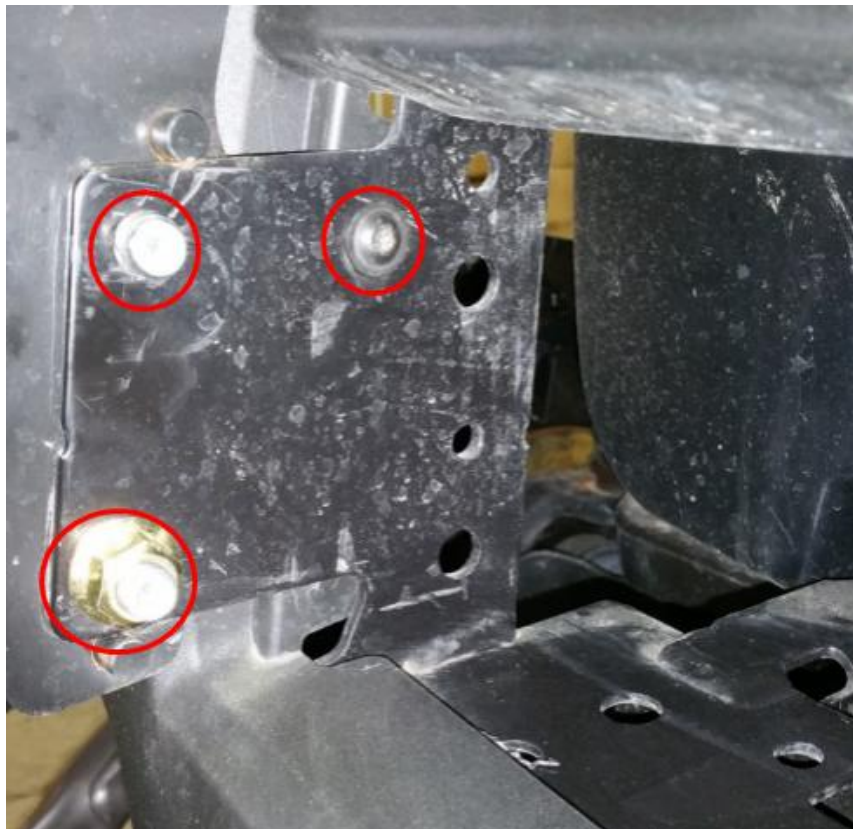

Figure 1
- 3) Using the hardware included in the winch kit, install the four (4) M8x25mm hex head bolts up through the bottom of the MA11990 Mount Plate (part #1), through the bottom of the Universal Fairlead Mount (part #4), and into the feet of the winch.
- 5) Remove the bumper hardware shown in Figure 1.